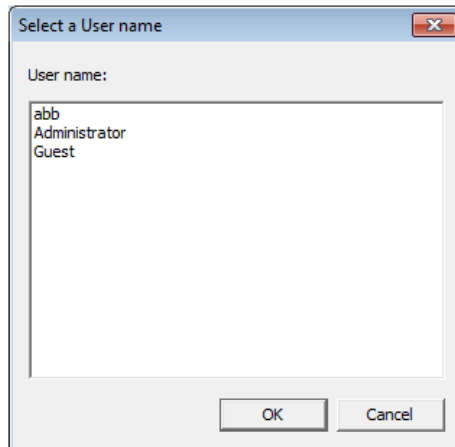

Figure 55. Select a User Name Dialog Box
- k. A Select a User Name dialog box similar to the one shown in Figure 55 appears. Select the Service User.